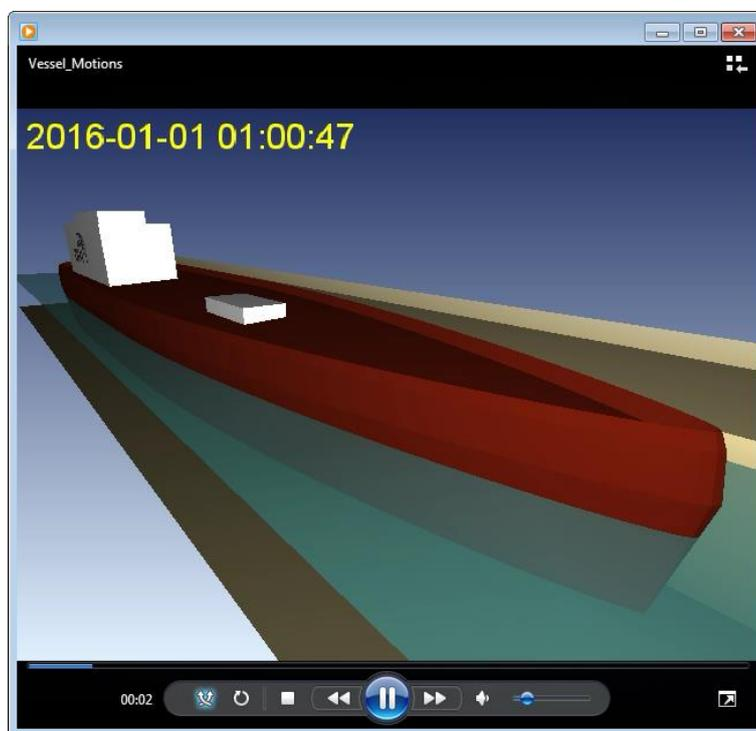

Figure 2.35 Recorded animation as shown in Windows Media Player
16. The resulting animation file **Vessel\_Motions.avi** can now be shown in e.g. Windows Media Player as shown in Figure 2.35.